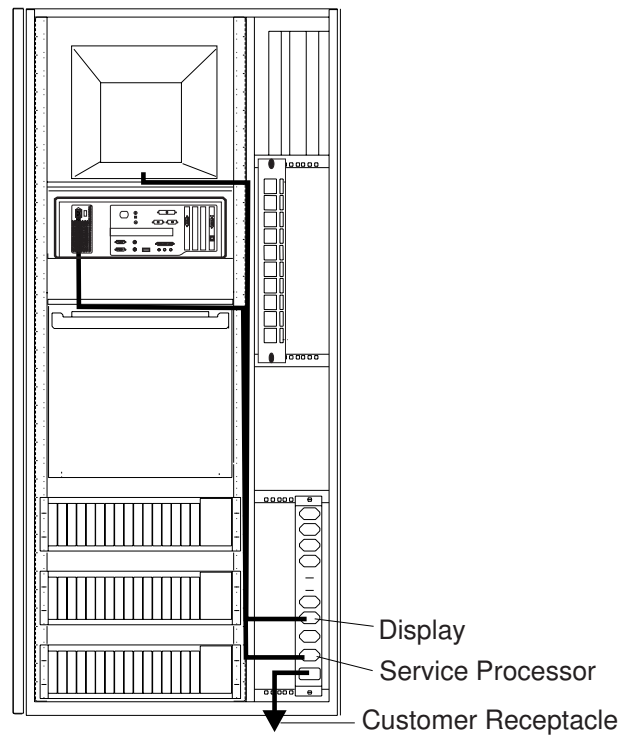

Figure 9. Power Cord Connections
15. Route and connect the power cords (PN 58G5783) from the display or Service Processor Unit to the ac outlet distribution box as shown in Figure 9. Secure these cables along the frame using tie clamps.